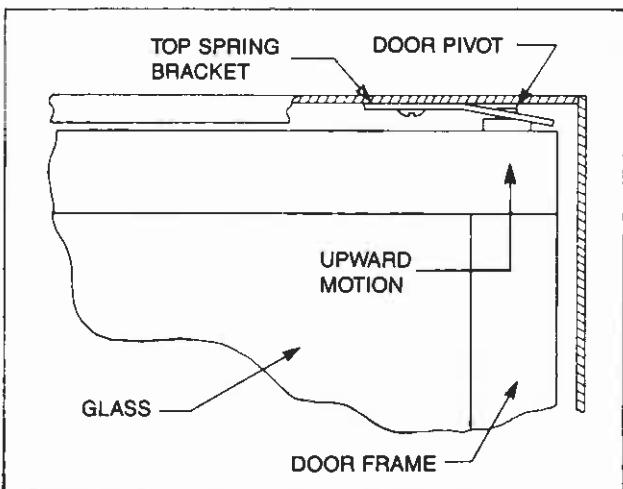

Fig. 3. Depress top spring bracket to remove door assembly.
2. Remove the frame and door assembly from the carton and open both doors. Remove each door assembly by depressing the spring bracket that holds each door in place (Fig. 3) and remove the door assemblies from the frame.